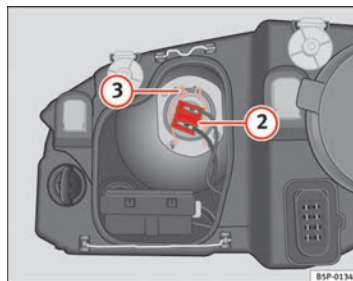

Fig. 186 Dipped beam headlights
- Remove the connector ⇒ page 274, fig. 186 ② from the bulb.
- Unclip the retainer spring ⇒ page 274, fig. 186 ③ pressing inwards to the right.